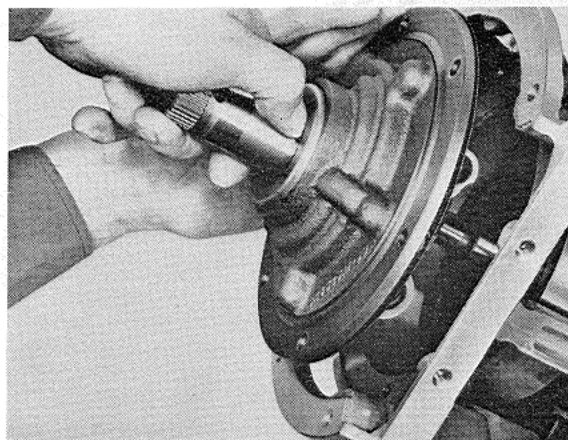

Fig. 46. Removing front pump
22. Unscrew the six bolts which retain the front pump to the body. Withdraw the pump and remove the gasket. Push the shaft inwards when withdrawing the pump, see Fig. 46.